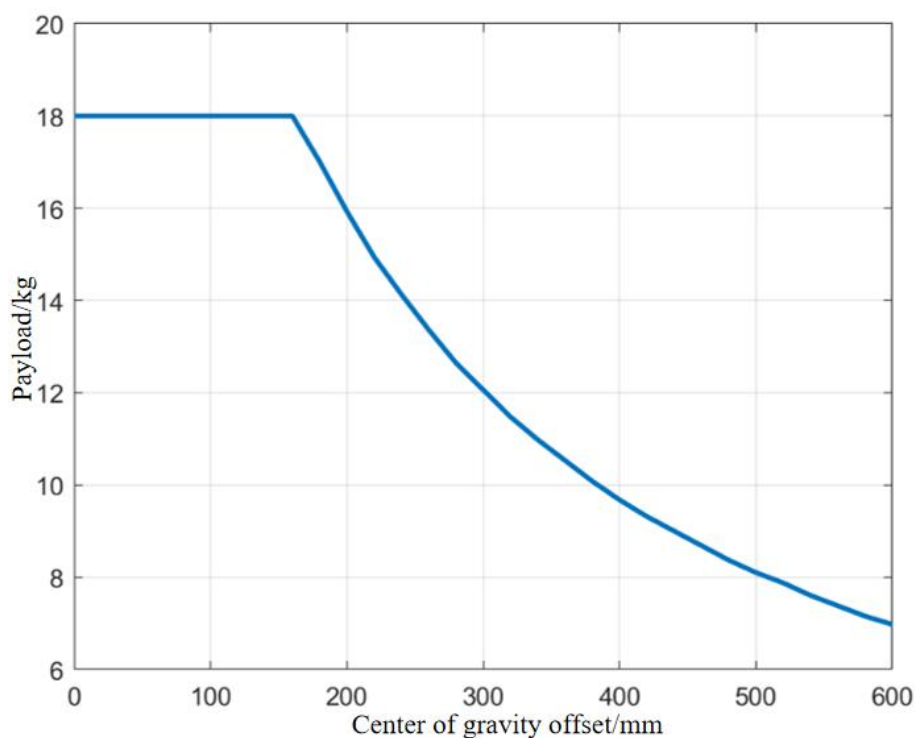

Figure B-8 G18 payload and Center of Gravity Offset curves
- The relationship curve between the payload of the G18 collaborative robot and the payload center of gravity offset is shown in Figure B-8.